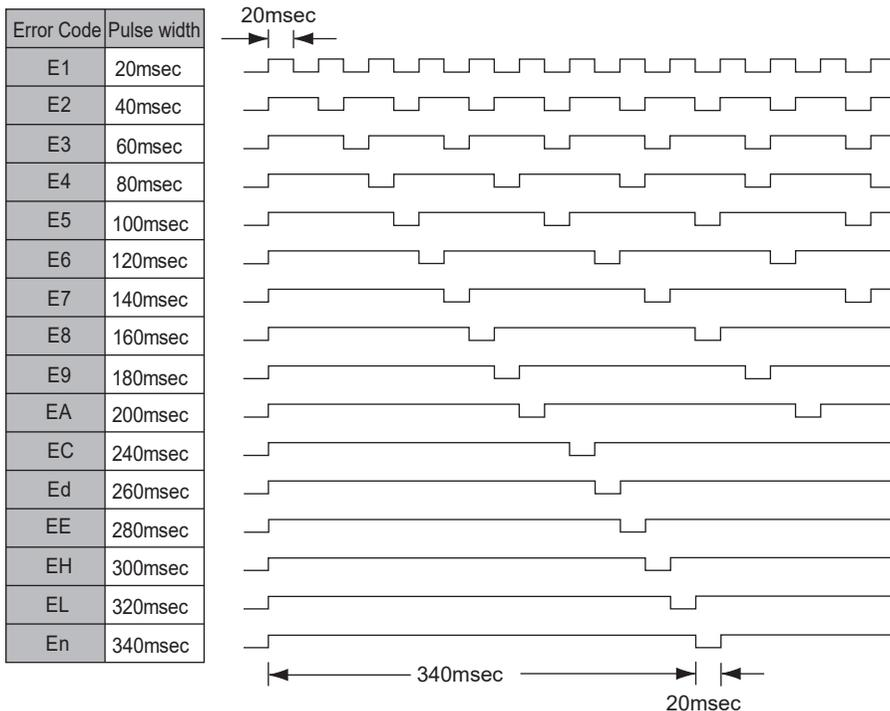

Fig. 48
When an error occurs, an error signal is output to the external Input / Output Connector A ③ (terminal No. 8: ERR). (Refer to Fig. 48.)